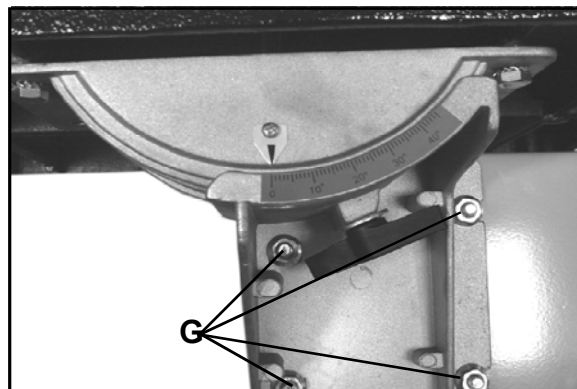
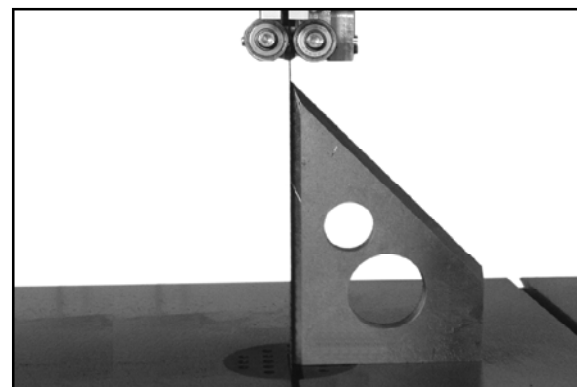

Fig. 09
Fig. 10
To center the table to the blade, loosen the four M8 nuts (G), which hold the lower trunnion to the bandsaw frame. (See Fig.09) Slide the table sideways until the blade is at the center of the slot in the table insert.
The table may be set at 90° to the saw blade (See Fig.09) by adjusting the table stop screw (A, B) (See Fig.10) underneath the table.